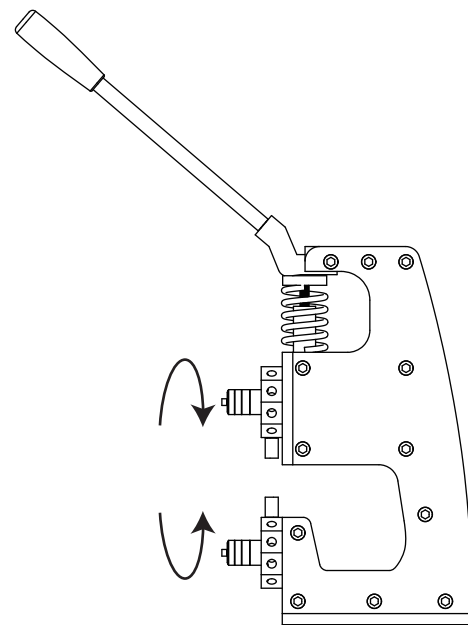

Fig.5.2
6. Adjust the direction of the dies so that the punch faces down and die faces up (Fig 5.2);